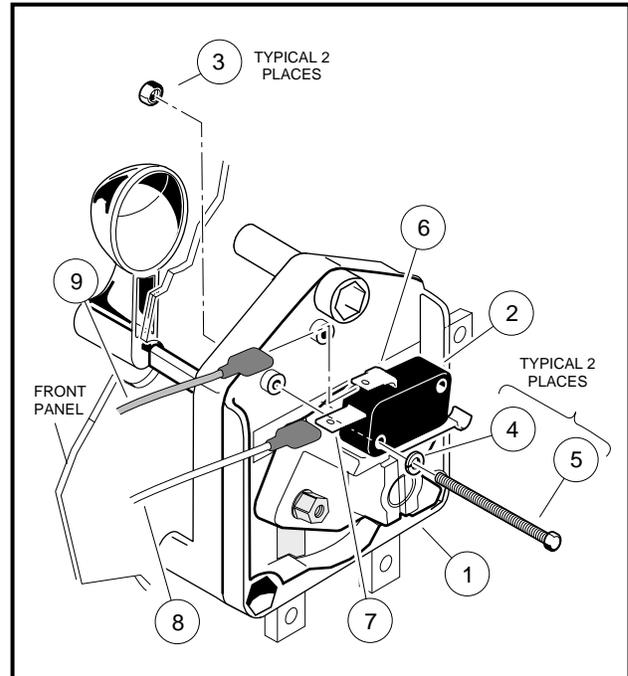

Figure 12-3 F&R Anti-arcing Limit Switch
1. Remove the nuts, lock washers, and screws attaching the anti-arcing limit switch to the F&R switch (**Figure 12-3, Page 12-3**).
1. Position the anti-arcing limit switch (2) on the F&R switch housing and install the screws, lock washers, and nuts. Tighten the screws to 5 in.lb (0.6 N-m) (**Figure 12-3, Page 12-3**).
2. Connect the blue wire (9) to the common (COM) terminal (6) and the yellow wire (8) to the normally open (NO) terminal (7) (**Figure 12-3, Page 12-3**).